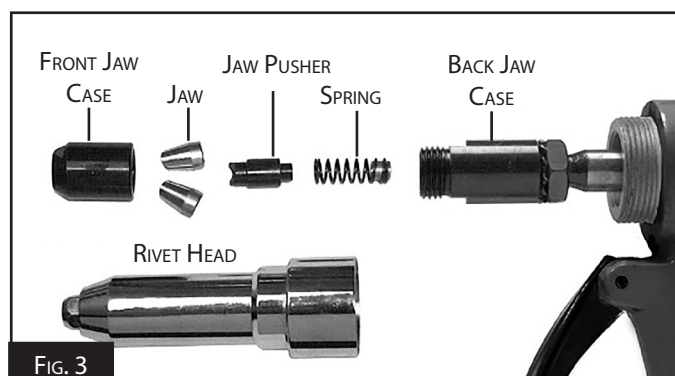

FIG. 3
2. Use the Spanner to unscrew and remove the Jaw Cases. Use care as there is a Spring behind the Jaw Case which may fly out. (Fig. 3)